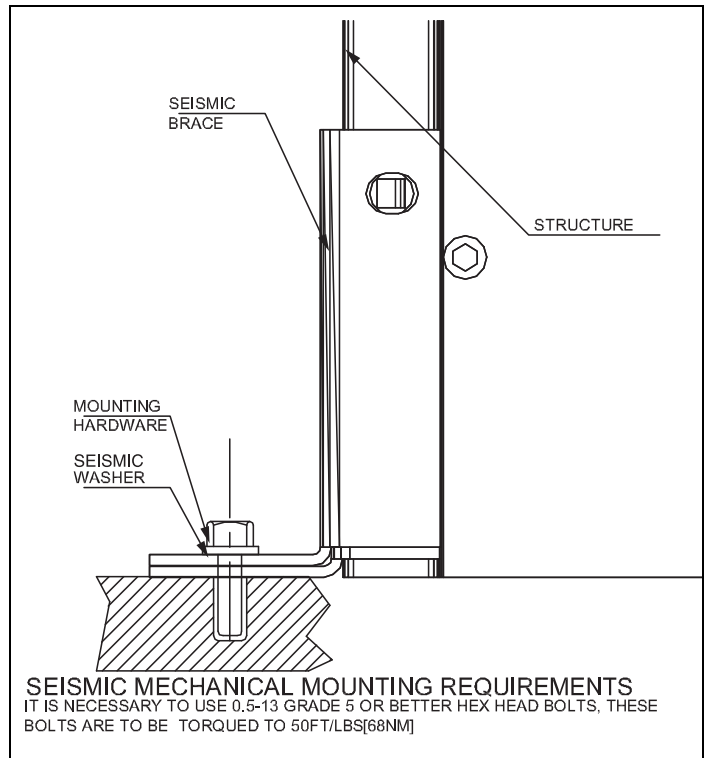

Figure 9. Seismic Tested and Approved Product Mounting Instructions.
- Step 3:** Bolt the enclosure to the base. Use separate cleats (Option 42 only) if Seismic Uniform Building Code (UBC) Zone 4 certification is desired (Figure 9), and secure with 1/2-13 UNC Grade 5 hex bolts.